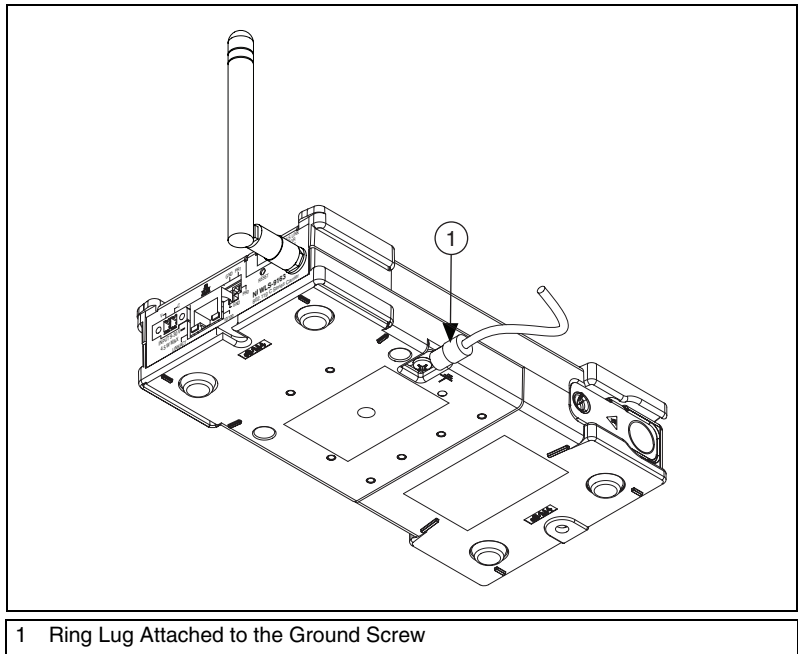

Figure 6. Ring Lug Attached to the Ground Screw
4. Attach a ring lug, as shown in Figure 6, to a 14 AWG (1.6 mm) wire. Connect the ring lug to the ground terminal on the bottom of the device using the ground screw. Attach the other end of the wire to the system ground.